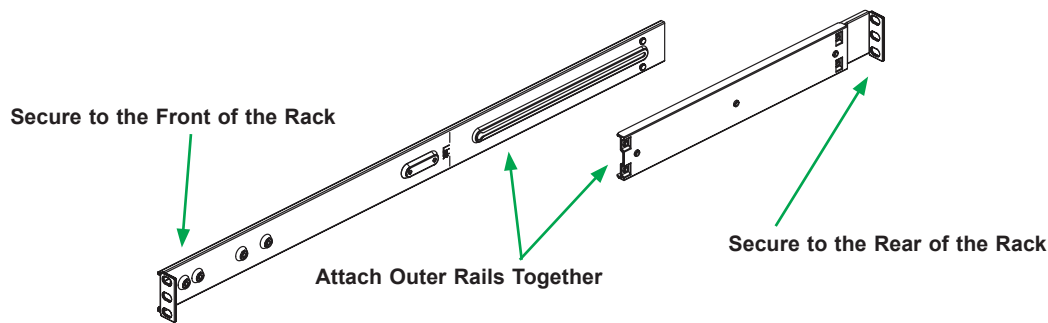

Figure 2-2. Assembling the Outer Rails
3. Finish by sliding the chassis into the rack and tightening the brackets to the rack. See Figure 2-2.